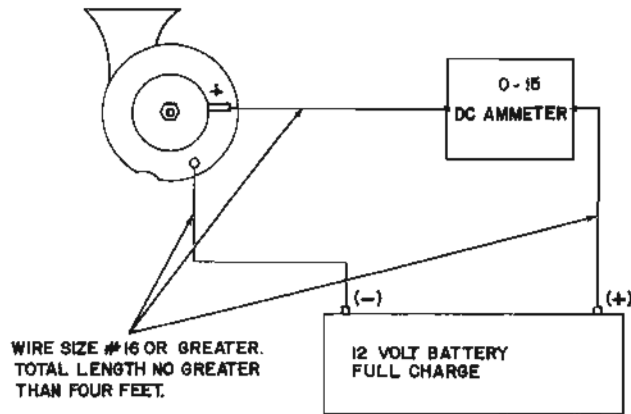

Fig. 4
horn as indicated in Fig. 4. CAUTION - The positive lead must be connected to the horn terminal.
b. After the connections are made as indicated in Fig. 4, firmly press the positive lead against the horn lead and observe the ammeter reading. Hold only long enough to observe the current indicated on the ammeter.